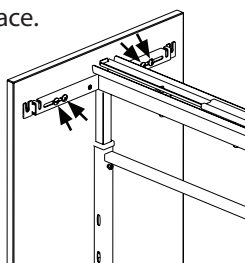

fig. 14
16) The next adjustment is left to right. Refer to figure 14, loosen two screws on each T type door mount bracket. Slide the door left to right so that the overlay is the same on both sides. Tighten both screws on each bracket. Once this adjustment is final, use two (#7) screws to lock the door in place.